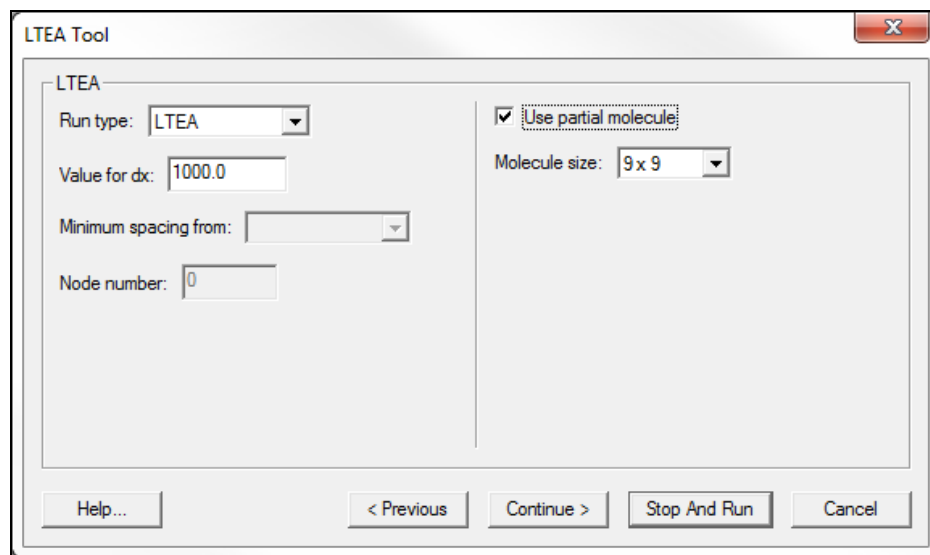

Figure 3 LTEA options page for the toolbox
1. In order to get LTEA values close to the domain boundary, make sure that the *Use partial molecule* check box is selected (Figure 3).